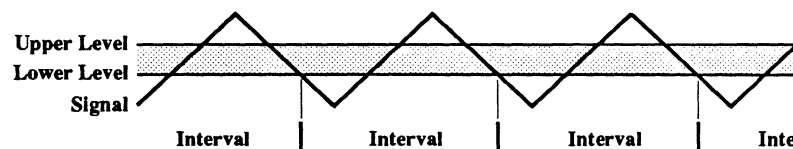

Figure 4 - When Negative Slope triggering is used, the Interval is the time span between two qualified falling edges of the selected signal.
- Negative Slope: see Figure 4.